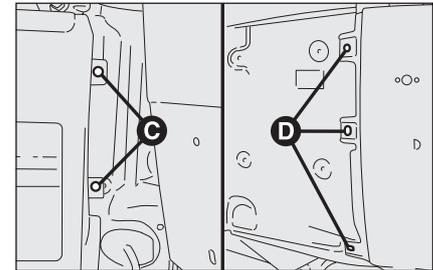

fig. 30c
- unscrew both fastenings **C** on the rear side-hinged door side and open the door slightly fig. 30c;
- unscrew the three side fastenings **D** on the side panel side, which are accessible after removing the side moulding fig. 30c. To remove the moulding, unscrew the three lower self-tapping bolts and carefully remove the spring clips to avoid breaking them. If one or more spring clips break, they must be replaced;